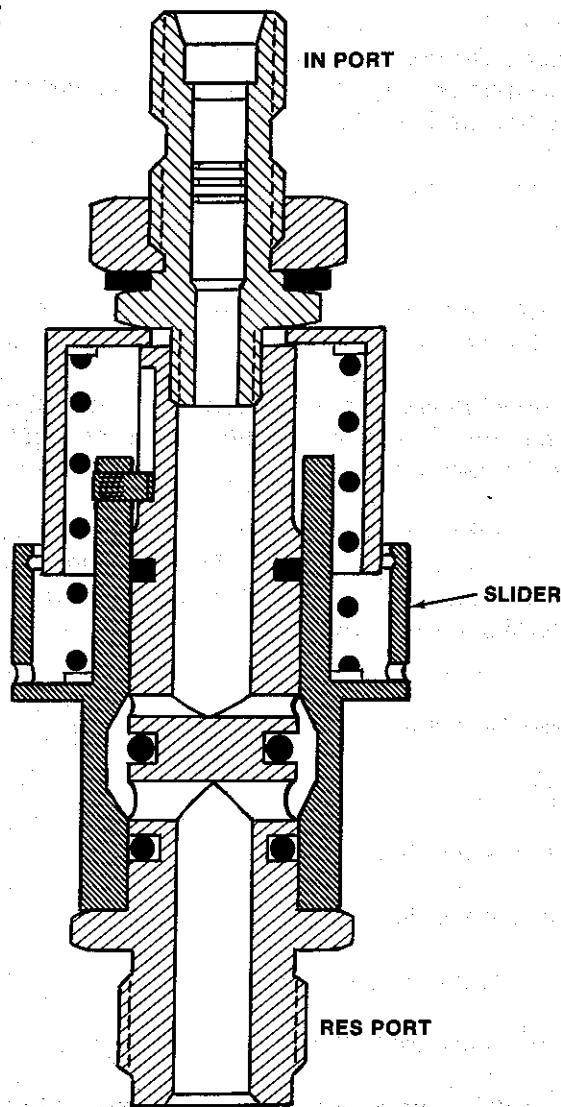
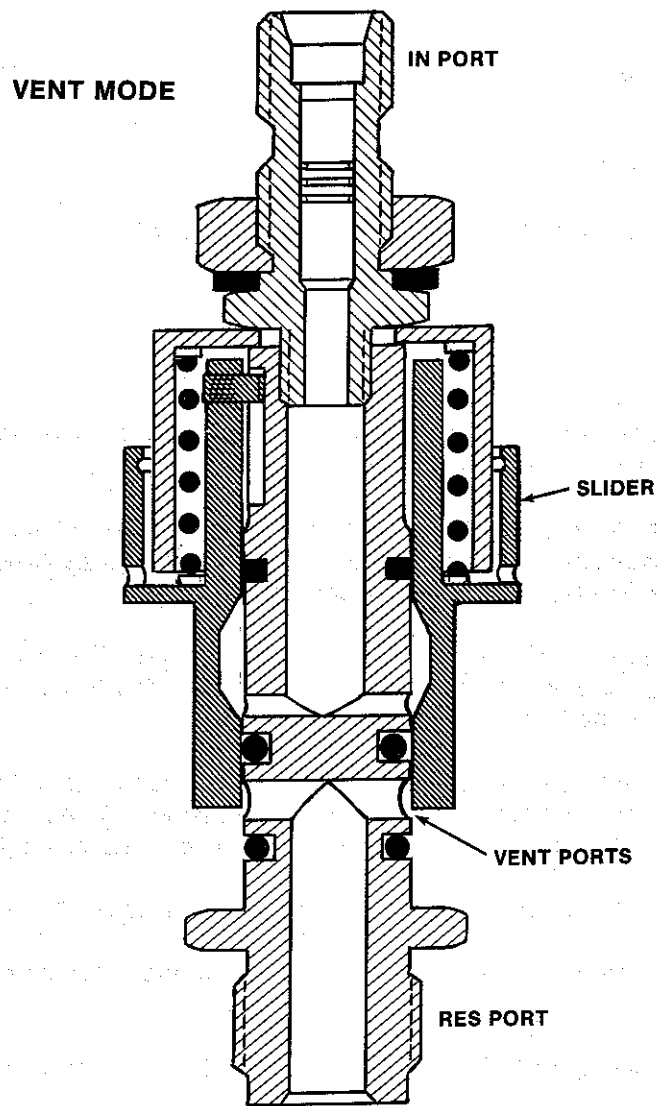

FIGURE 1
FIGURE 2
1. The reservoir vent valve is a vent valve incorporating an integral check valve. The valve is designed to retain pressure in a remote hydraulic fluid reservoir when in the normal mode (see Figure 1) and to release pressure when manually actuated to the vent mode (see Figure 2). This allows maintenance or repair of that reservoir without interrupting pressure to other reservoirs in the system.
2. The unit incorporates a "Lift and Twist to Lock" feature to hold the valve in the vent mode (see Figure 2).
- a. The normal mode O-ring (10) seal
- b. The vent mode O-ring (10) seal
- c. The slider seal consisting of the Glyd-ring (20) and O-ring (15)
- d. The body/fitting gasket (50)
NOTE: All item numbers refer to IPL, Figure 1.
1. The valve is actuated by pushing the slider (25) toward the "in" port (see Figure 2) with a sharp motion and rotating the slider (25) 90° to lock in this position.
2. After reservoir servicing is completed, rotate the slider (25) 90° in the opposite direction of paragraph 1 and release. Check the slider (25) to make certain it has resealed against the face of the body (5) hex as shown Figure 1.
3. When the valve is in the normal mode (see Figure 1), operation is automatic. Pressure enters the "in" port (see Figure 1) and passes through the check valve incorporated in the fitting assembly (55). If the pressure is reduced or removed from the "in" port, the check valve will maintain pressure at the "res" port (see Figure 1).
All item numbers refer to IPL, Figure 1.